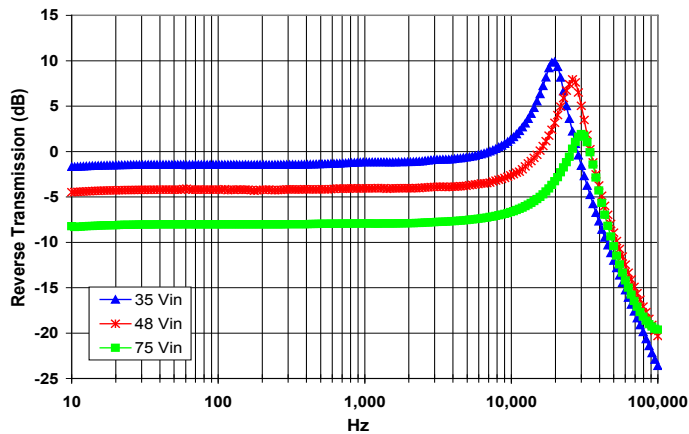

Figure 19: Magnitude of incremental reverse transmission ( $RT = i_{in}/i_{out}$ ) for minimum, nominal, and maximum input voltage at full rated power.
**Back-Drive Current Limit:** If there is negative output current of a magnitude larger than the "Back-Drive Current Limit while Enabled" specification\*, then a fast back-drive limit controller will increase the output voltage to maintain a constant output current. If this results in the output voltage exceeding the "Output Over-Voltage Protection" threshold\*, then the unit will shut down. The full I-V output characteristic can be seen in Figure 19.